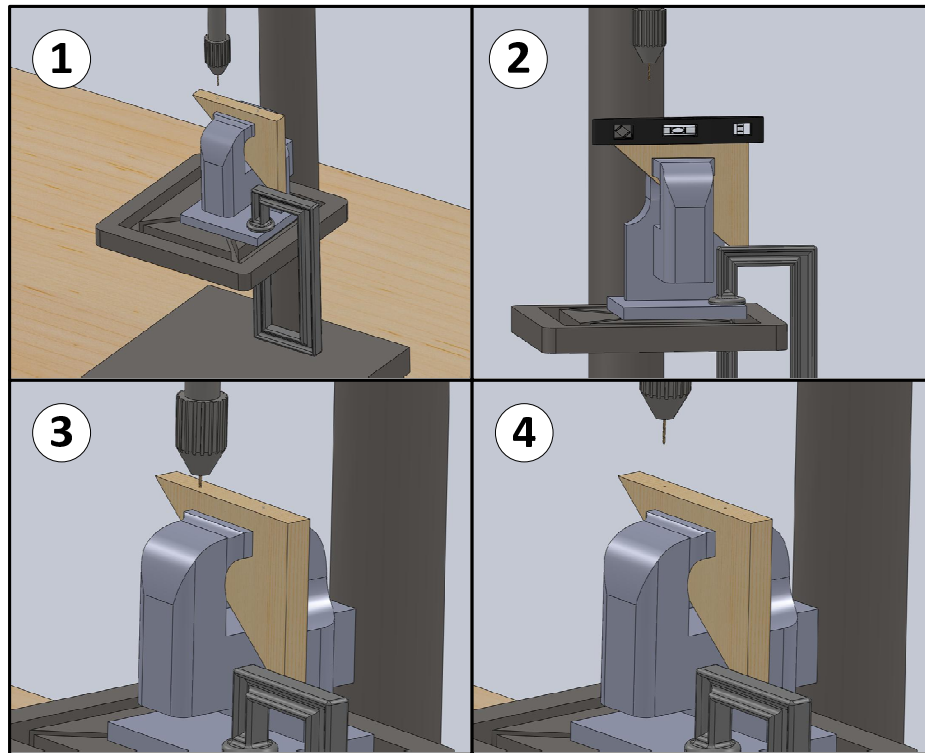

Figure 13: (1) Align the bit and the first hole. (2) Make sure the gusset is level and secure clamp. (3) Slowly drill the pilot hole. (4) Finished hole.
- B. Clamp one of the gussets into the **Drill Press Vice** with the marked dents facing up. Use the **Torpedo Level** to make sure the table is level and that the gusset is level with the table. This will ensure the drill bit enters the wood at a 90° see Figure 13. It is always wise to check to make sure the drill press table is level as well.
- C. Position the hole marking directly below the drill bit. Then clamp the vice to the table with the **Bar Clamp** as shown in Figure 13.